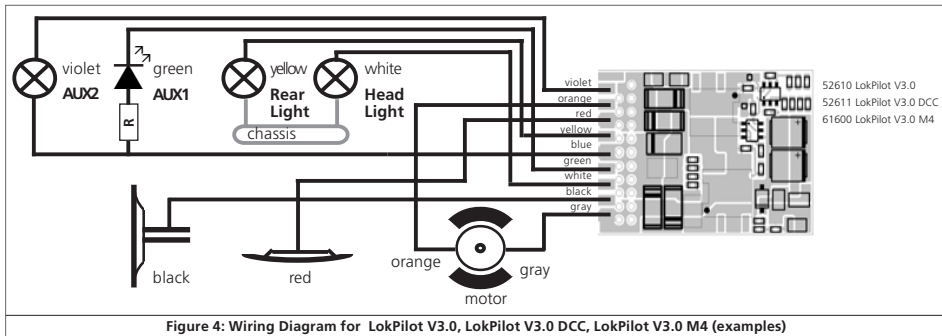

Figure 4: Wiring Diagram for LokPilot V3.0, LokPilot V3.0 DCC, LokPilot V3.0 M4 (examples)
a) The lamps / function outputs are insulated from the common pole (ground) (i.e.: the locomotive chassis); therefore they are potential free. Fig. 4 shows the correct wiring for the outputs AUX1 and AUX2. The functions of the locomotive must be potential-free, in other words there may not be any other connection to the function besides the wires from the decoder. The voltage at these outputs is about 1.5V lower than the track voltage. The blue wire is the „plus-pole“; the function output the „minus-pole.“
If LEDs are installed (also refer to Fig. 4, output AUX1), then a resistor must be wired in series with the LEDs. It should have a
b) The lamps / function outputs are wired (together) against the chassis of the locomotive (as in most locomotives by Märklin® as well as in most older locomotives by Fleischmann® and ROCO®). This scenario is illustrated for the light outputs in Fig. 4 (the headlights can of course also be wired as in „a“). The wiring is simpler but the available voltage is about half.
As shown in Fig. 4 it is possible to use both options in the same locomotive.